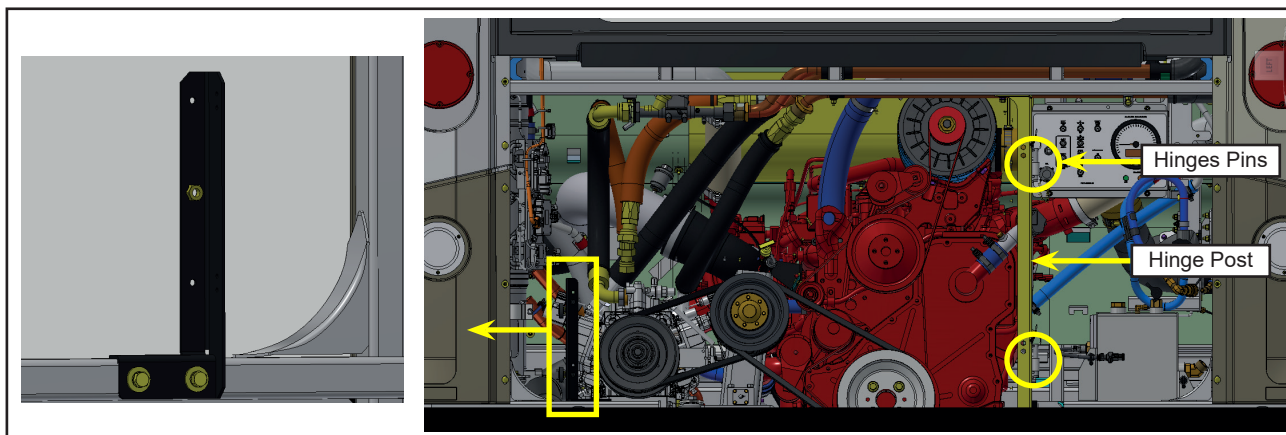

Figure 6 - Removal of Street Side Post
Retain hinges pins & belt guard hinge post assembly (see figure 6).
- 1.8. Remove the street side post and discard (see figure 6).